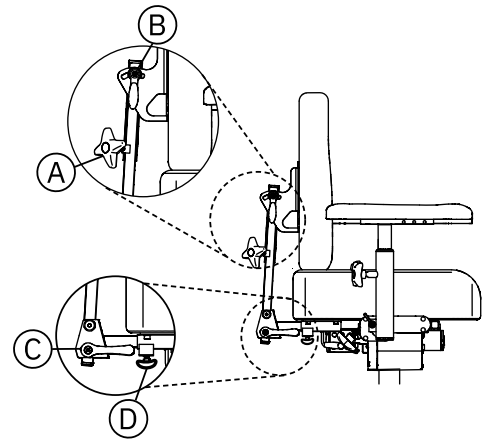

Figure 5.9. Medic TWIN back adjustment mechanism.
Medic TWIN can be adjusted in height (A), angle of backrest (B), angle of backrest mechanism (C) and depth (D), see Figure 5.9. The back recliner can be adjusted in the range of 15° forward to 45° backwards.